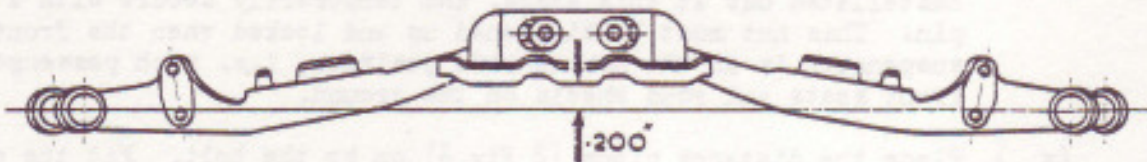

FIG. 11.
- c) Place a long straight edge against the underside of the centre plate and move one of the triangle levers until the centre of the bore in the outer end of the lever is .200" (5 m/m) below the underside of the centre plate as shown in Fig. 11. Tighten up the castellated nut and secure with a new split pin. While the nut is being tightened, check that the lever has not moved from the .200" position.